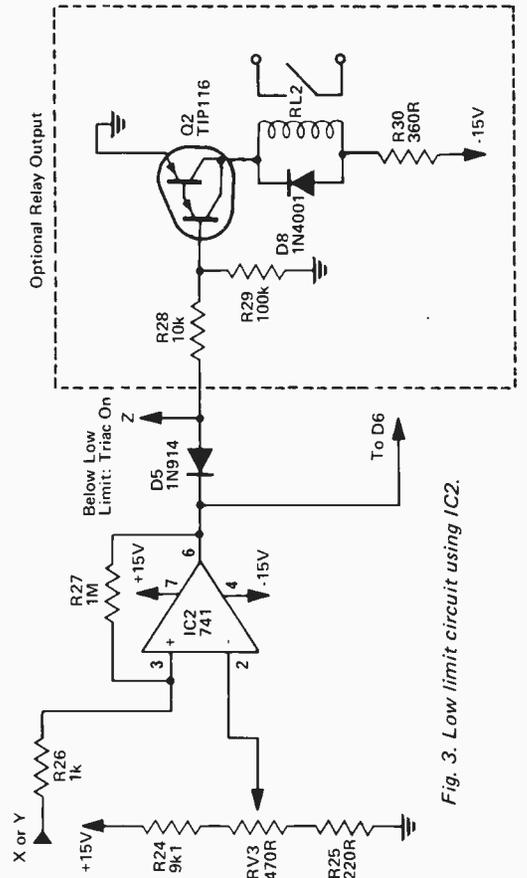

Fig. 3. Low limit circuit using IC2.
- Additional limit not required, omit all components of Fig 3 (IC2 etc).